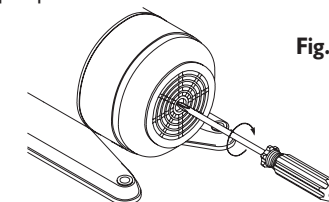

Fig. 3
1. Before starting, the pump must be primed. Please follow the procedure as shown in Fig 3.
1. Periodically check the condition of the check valve and strainer (if used). motor shaft as shown in Fig 3 and turn to free the rotor. If this does not remedy the problem, the unit will need dismantling.